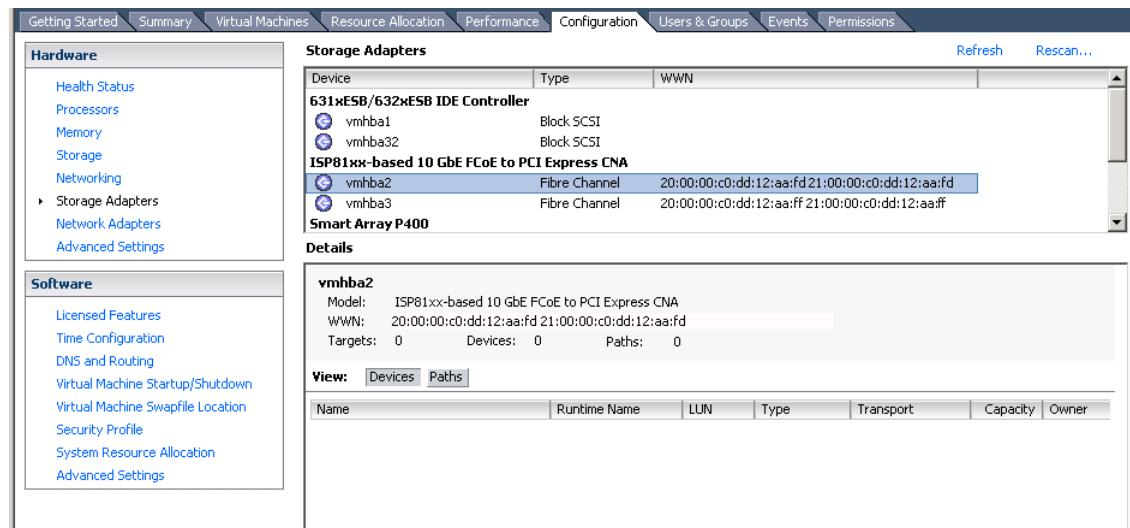

Figure 5-13. Displaying Storage Adapters Using the vSphere Client
3. In the Hardware pane, select **Storage Adapters** to display all storage adapters, including QLogic Fibre Channel and Converged Network Adapters, as shown in Figure 5-13.